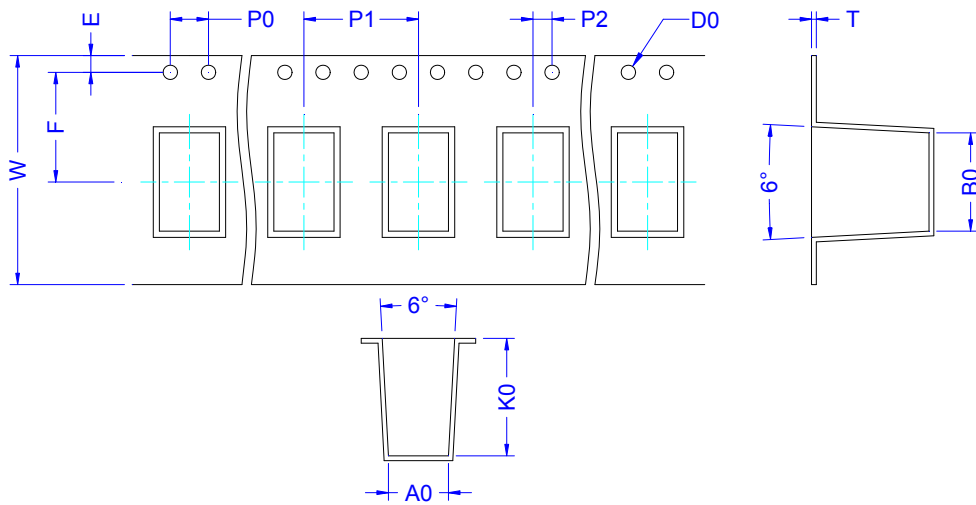

Fig. 9.1.1-1
1) Carrier tape dimensions (Refer to Fig. 9.1.1-1 and Table 9.1.1-1)